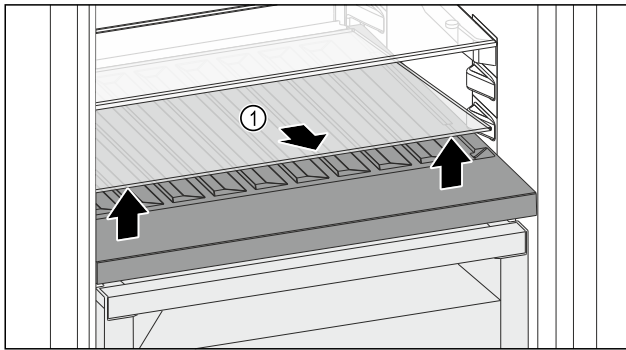

Fig. 141
- ▶ Lift the glass shelf Fig. 141 (1) at the front and remove.
- ▶ Store the glass shelf Fig. 141 (1) in a safe place outside the appliance.